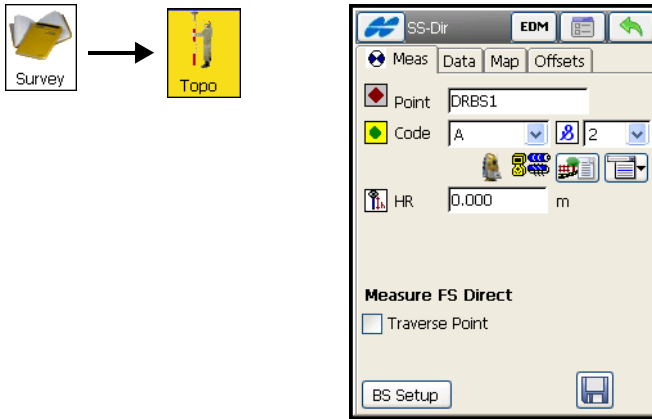

Figure 8-37. Sideshot-Direct
1. Tap **Survey ▶ Topo** (Figure 8-37). Select the *Sideshot Dir* measurement method using the settings  button, and set the order and the type of the measurements in a set.
6. To perform the sideshot, tap the  button (Figure 8-37 on page 8-39).